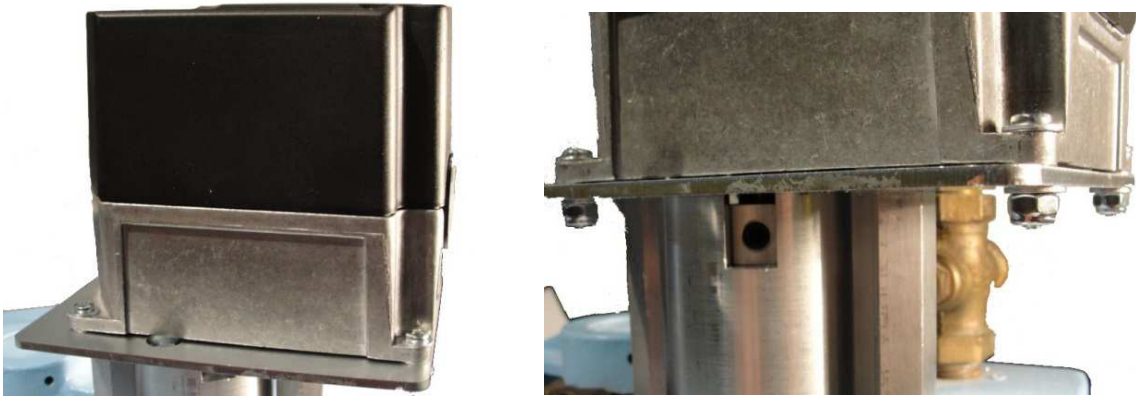

Figure 10: SQM... Actuator Installed
9. Mount the SQM... actuator to the actuator base plate using the four #8-32 x 0.75" pan head screws, eight #8 SAE washers, and four #8-32 locknuts. Figure 10 shows the assembly after this step.